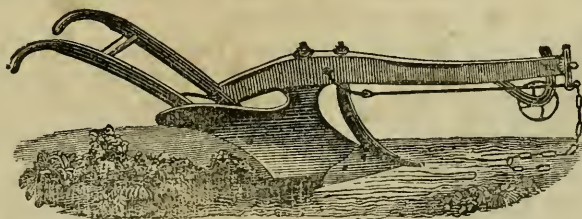

FIG. 3.
Fig. 3 represents the **Eagle Plough D, F, and C, L**, with Lock-Coulter, which is made of wrought iron laid with steel, and fastened to the share, which makes it very strong and durable. It also represents the Draught-Rod which strengthens the beam, and gives the plough great strength, and makes it just the thing to be used among roots, rocks, or for ploughing newly-cleared land, as the Coulter cannot be forced from its position on the share. We have Cutter-shares to fit the Eagle A and B plough; also can put in the wrought coulter if desired.
**Eagle F,**—WITH WHEEL, COULTER, AND DRAUGHT-ROD.—See Fig. 3. It is well adapted to trench-ploughing, and for breaking up rough ground. Almost any growth of grass, stubble, or weeds, may be readily covered with it. It will cut a furrow to the depth of twelve inches, if required, and even deeper, and from fourteen to sixteen inches in width. The power required is three horses.
**Eagle C, L.**—This plough is used for reclaiming meadows, and is an excellent plough for the wet lands on the Mississippi, and for the Western prairies. It is of strong construction, and will bear the draught of four stout horses. It has a strong lock-coulter, (as seen in Fig. 3,) and when required, it has a sharp steel-edged share or point, and a drag-coulter, or reversed cutter, to facilitate the complete turning over of the surface of meadows, when drained by ditching. Its crane-clevis, and the newly in-